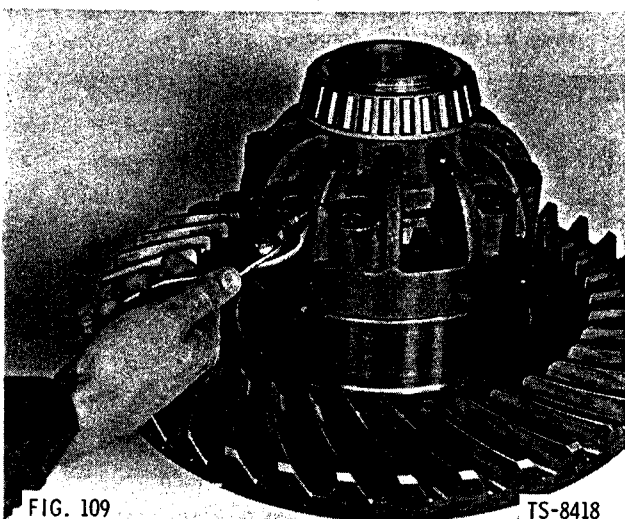

FIG. 109
8. On axle Part Nos. 131508 and 190009, lockwire bolts in pairs (Fig. 109).